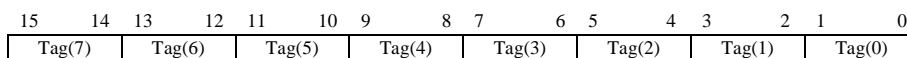

Figure 2-41. FPU Tag Word Register
FPU Tag Word Register. The IBM 6x86 CPU maintains a tag word register (Figure 2-41 (Page 2-76)) comprised of two bits for each physical data register. Tag Word fields assume one of four values depending on the contents of their associated data registers, Valid (00), Zero (01), Special (10), and Empty (11). Note: Denormal, Infinity, QNaN, SNaN and unsupported formats are tagged as “Special”. Tag values are maintained transparently by the IBM 6x86™ CPU and are only available to the programmer indirectly through the FSTENV and FSAVE instructions.